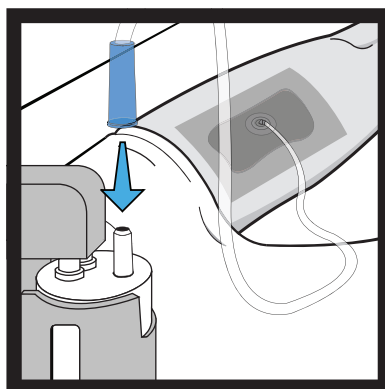

Figure 13
12. Connect the distal end of the SpeedConnect™ Tubing with the blue tapered connector to the open port of the Canister (**Figure 13**). Gently twist and push the connector on just enough to secure and seal it.